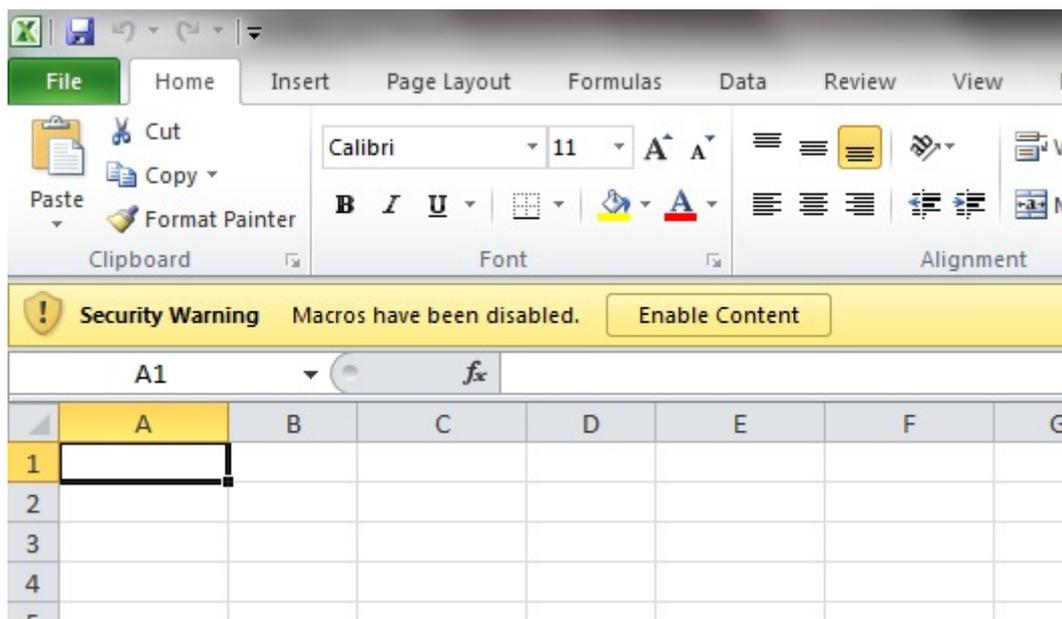

Figure 23 Macros Disabled Warning
3. Start the spreadsheet. There may be a Macros Disabled warning, You need to click on the “Enable Content” button, see fig 23